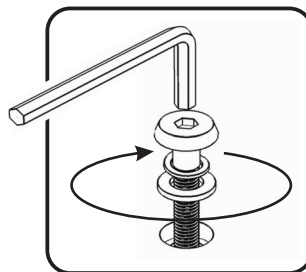

Figure 3
Attach Table Slides (F) to unit with Flat Washers (small), Spring Washers (small), Head Cap Bolts (small) and Wood Screws. (See Figures 3 and 4)